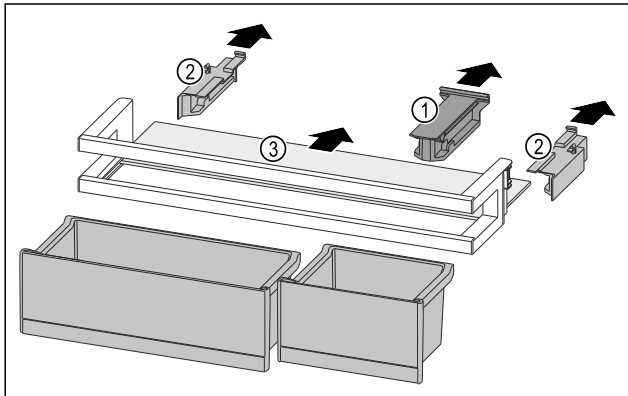

Fig. 92
- ▶ Pull off the holding part Fig. 92 (1).
- ▶ Pull off the side parts Fig. 92 (2).
- ▶ Remove the shelf Fig. 92 (3).